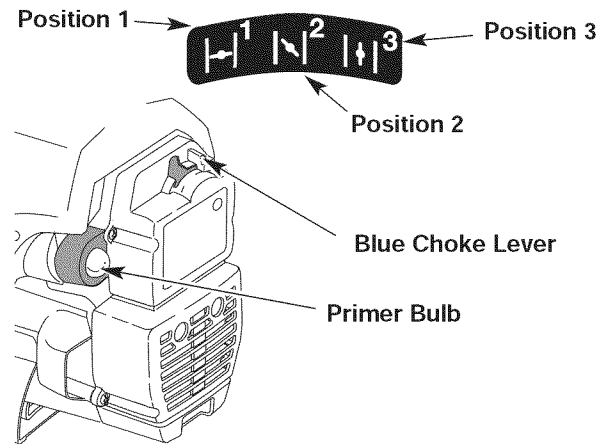

Fig. 10
2. Fully press and release the primer bulb 10 times, slowly. Some amount of **fuel should be visible in the primer bulb** and fuel lines (Fig. 10). If you can't see fuel in the bulb, press and release the bulb as many times as it takes before you can see fuel in it.
3. Place the blue choke lever in Position 1 (Fig. 10).